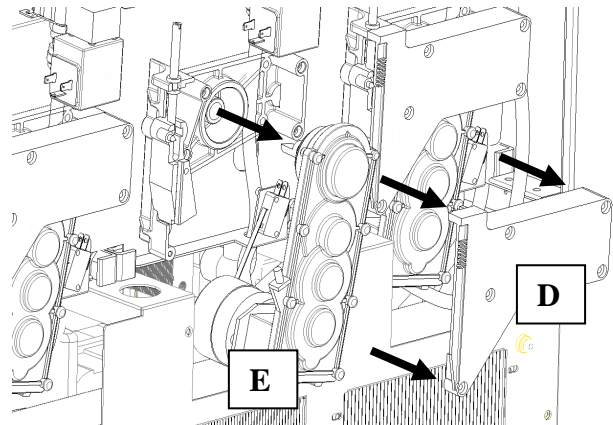

Fig. 35
- Remove the gearmotor plastic cover fixing screws and take away the cover D by pulling it outward as showed in fig.35;
- Unplug the gearmotor E and remove it by gently pulling it outward as showed in fig.35.